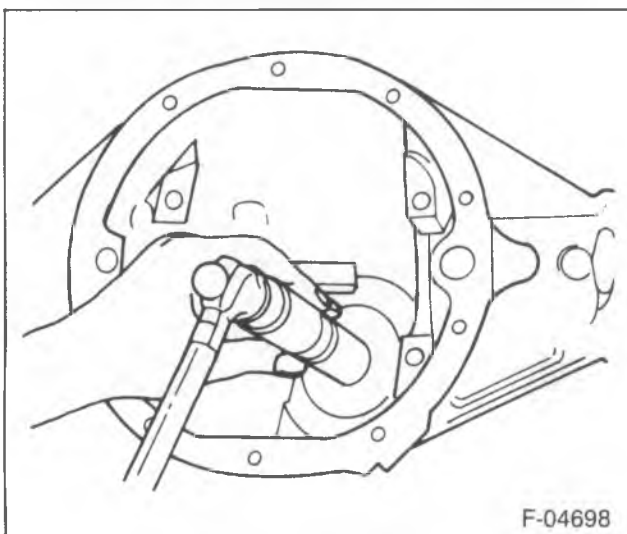

Figure 10—Installing Rear Pinion Bearing Cup
2. Rear pinion bearing cup using J 8608 and J 8092 (figure 10).